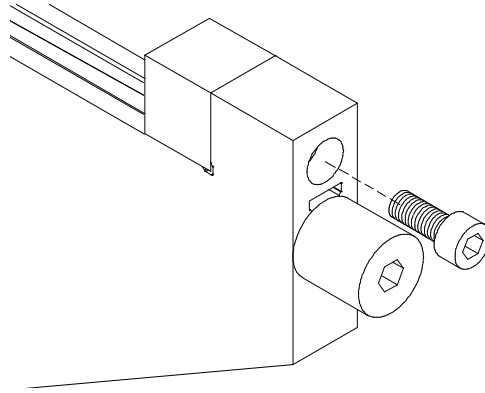

Figure 6
STEP 11. Place the replaceable fixed jaw in the vise bed with the hole facing the fixed jaw as shown in Fig. 6 and insert the screw through the fixed jaw into the replaceable jaw. Secure the jaw by tightening the screw.